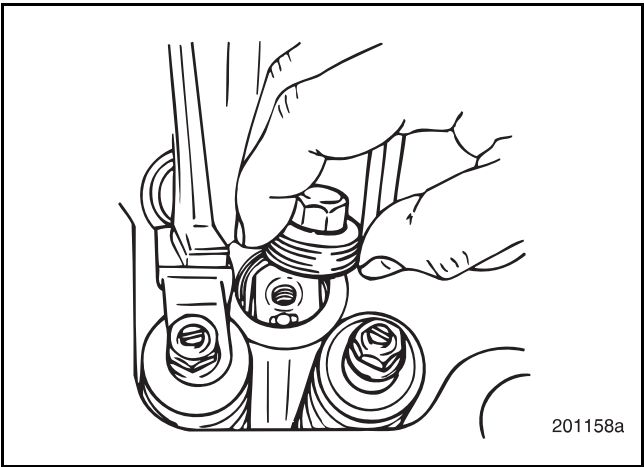

Figure 6-66 — Retaining Plug Installation
8. Lubricate the threads of the retaining plug and install in position. Torque to 45 lb-ft (61 N·m) using torque wrench J 24407 or equivalent. Refer to Figure 6-66.